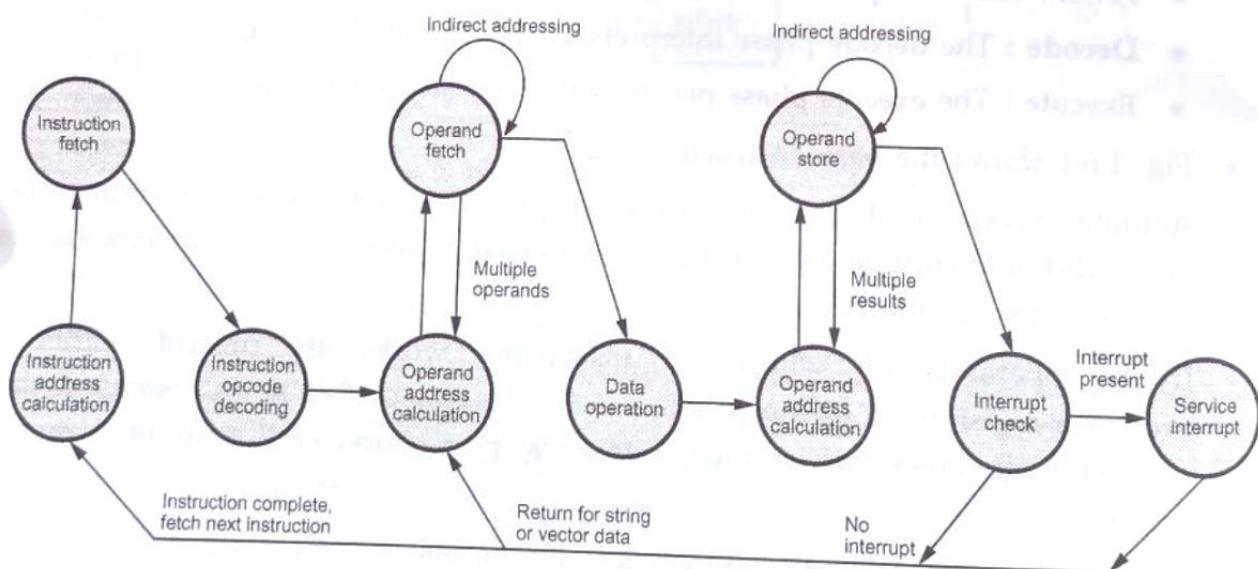

Fig. 1.6.2 Instruction cycle state diagram
- Following execution, interrupt processing may be required before fetching the next instruction. The same process can be viewed as shown in Fig. 1.6.2.